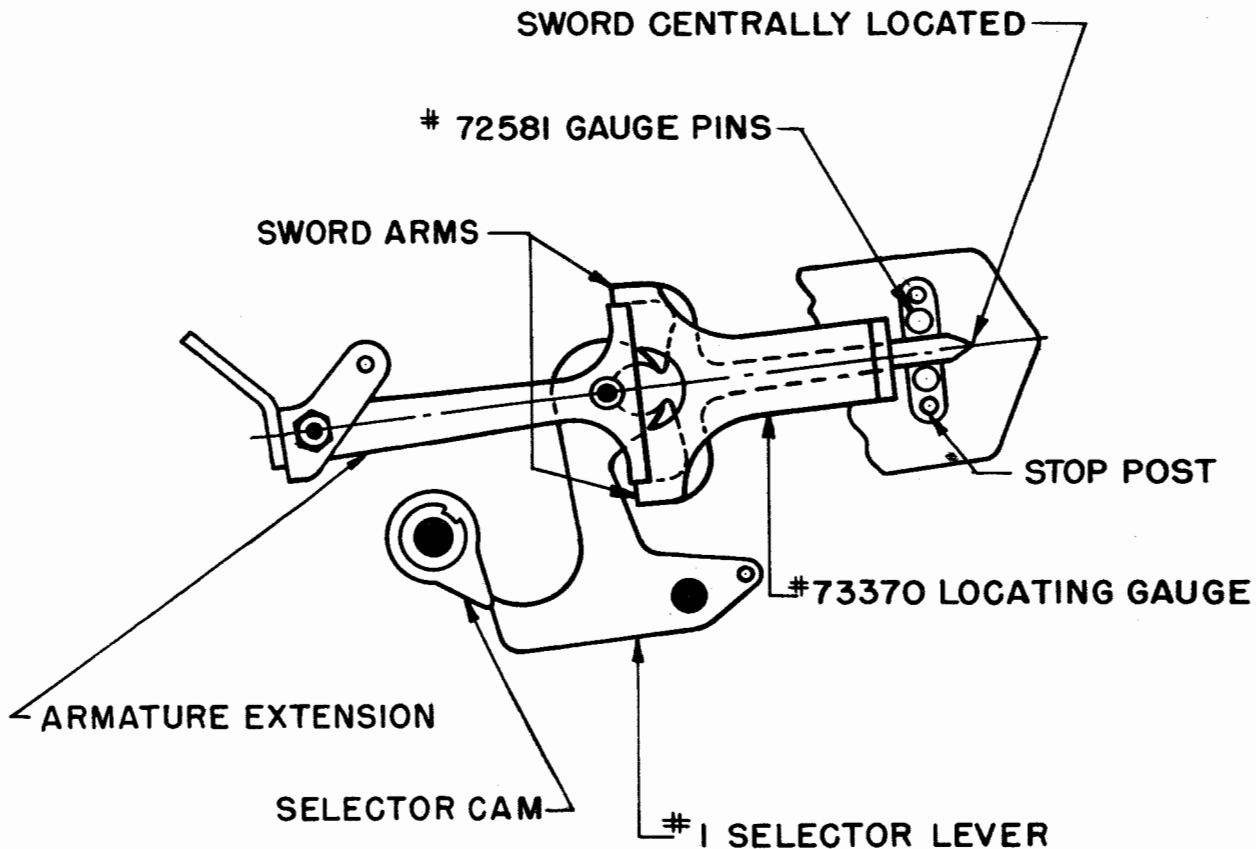
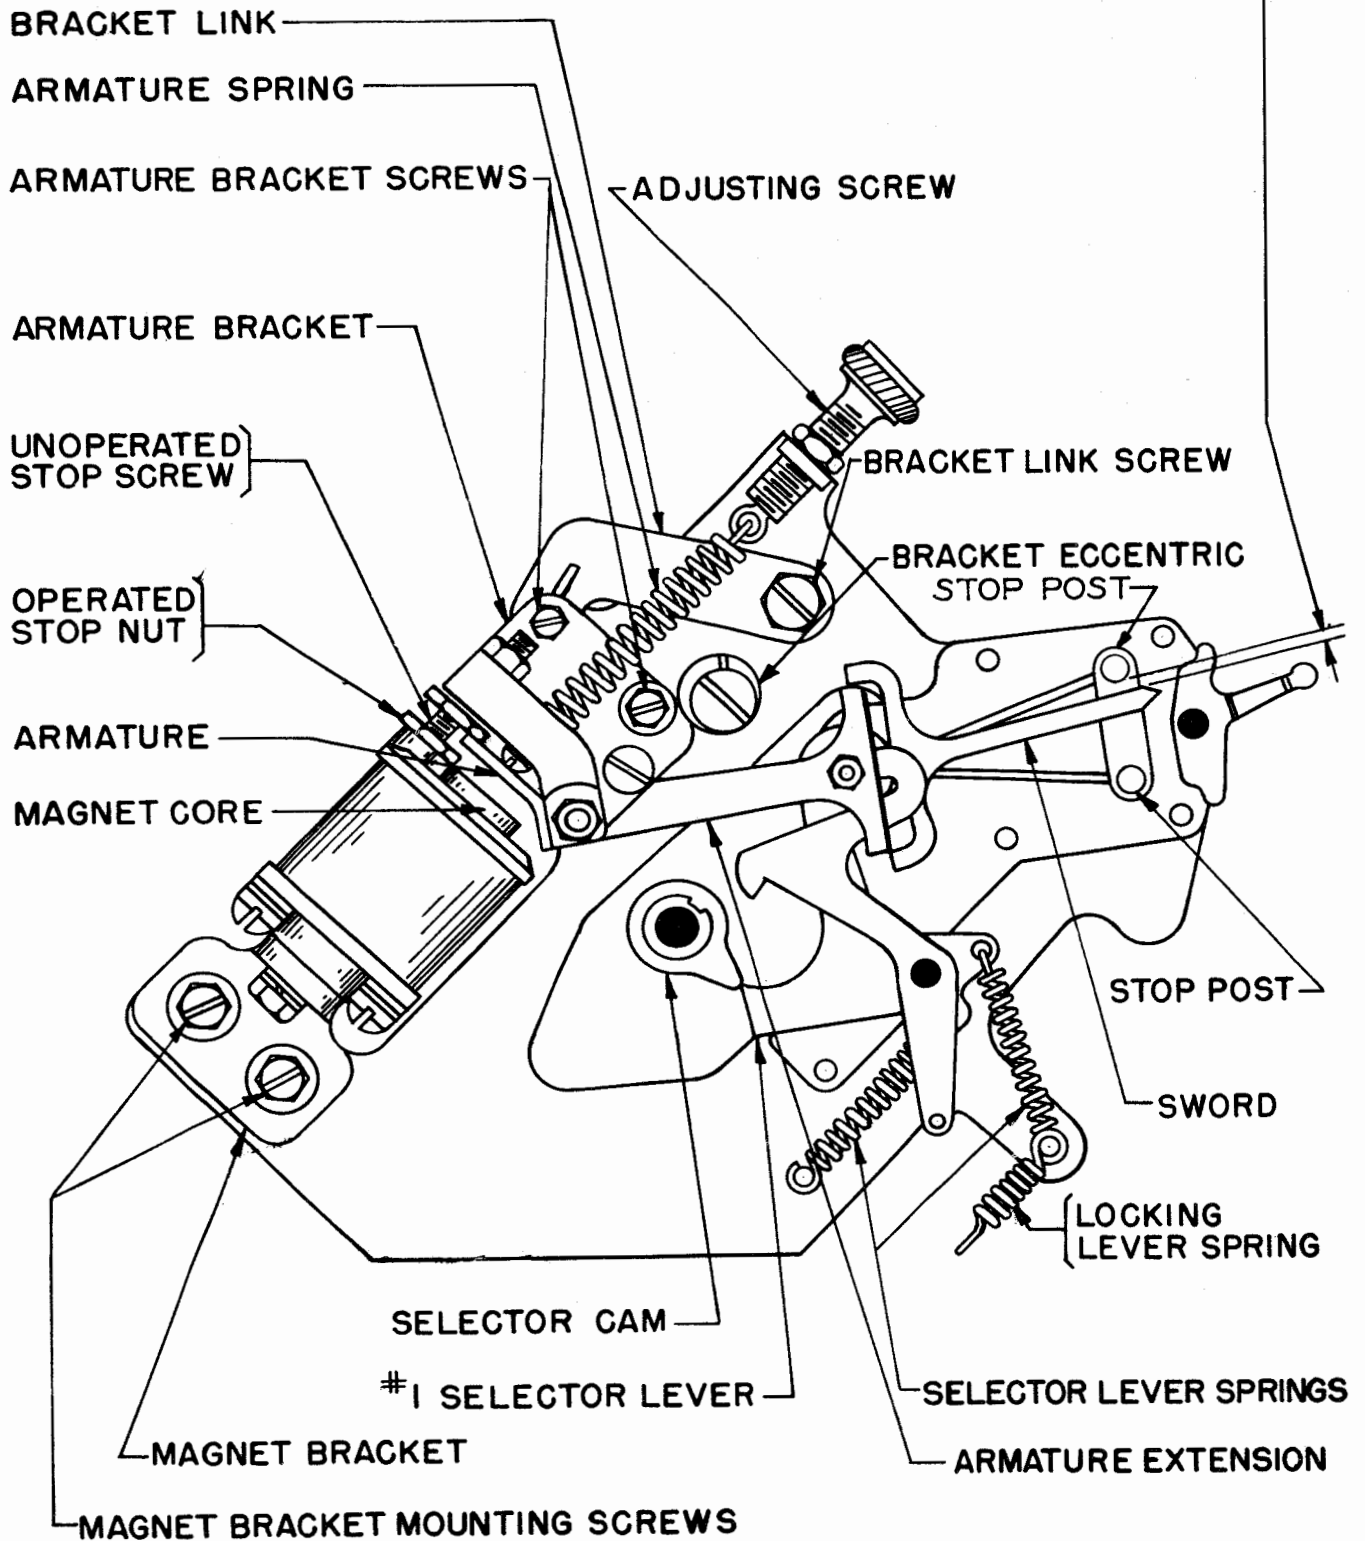

Figure 15
Figure 16
swords are held centrally located between the stop posts with TP72581 gauge pins (See Figure 15.)
To Adjust 1: Unhook the locking-lever spring; loosen the magnet and armature-bracket mounting screws and bracket-link screw (see Figure 16); back off the armature stop screw and nut; move the armature-bracket eccentric out of the way; take out the two motor stoplever-bracket mounting screws and lift out the bracket on units so equipped; rotate the camsleeve until the No. 1 selector lever rests on the peak of its cam; place the armature so that its extensions are between the sword arms and insert TP72581 gauge pins between the posts and swords as in Figure 15; place a TP73370 locating gauge over the end of the No. 1\* sword so that the legs of the gauge are against the ends of the sword arms, move the armature bracket to a position which will bring the end of the armature extension flush against the flat surface between the
not more than 0.040 inch, as indicated in Figure 16, between the sword arm and the stop post. Repeat the procedure with the marking arm against the armature extension and move the armature from its operated position.
clamping screws are tightened and provided the link screw is not loosened. (See Figure 16.)
To Adjust the upper or left arm clearance (Note 1), position the armature stop screw with the armature unoperated; to adjust the lower or right arm clearance (Note 1), reposition the armature stop nut with the armature operated. If either clearance is changed, recheck clearance of the other arm. (See Figure 16.)
To Adjust: Position the selector-armature spring adjusting screw. (See Figure 16.)
2.23 Magnet Bracket (pulling magnet): Magnet-core ends should be approximately parallel to the armature, as gauged by eye, and should have a clearance between the core ends and the armature, when the armature is held in the operated position, as follows (see Figure 16 for identification of parts): old-style armature with nonmagnetic antifreeze strip, minimum 0.002 inch, maximum 0.007 inch; new-style chromium-plated armature, minimum 0.003 inch, maximum 0.010 inch; and 20-type apparatus, some to 0.004.